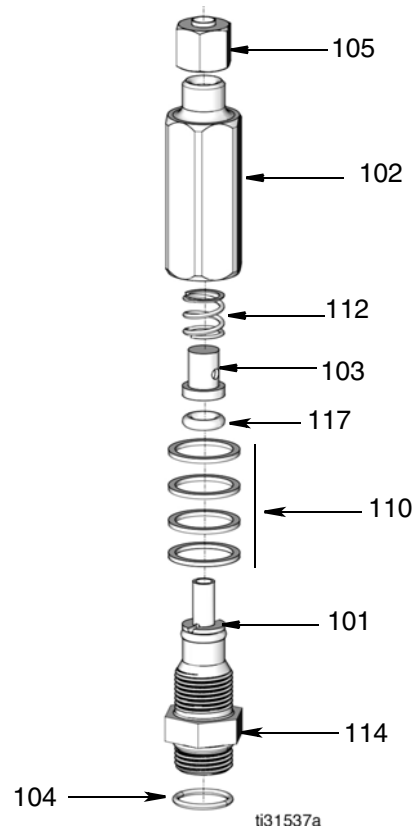

FIG. 36
Grease injectors are used to provide precise lubrication to each grease point in the system. If an injector is not producing the correct amount of lubricant for a specific location on the vehicle or if a replacement injector of correct size is not available, output spacer washers (110) can be installed to adjust the injector's output volume (FIG. 36, page 44).
3. Use a 5/8 inch wrench to loosen and separate the injector body (102) from the valve assembly (114). Be careful not to misplace or damage the spring (112), retainer cap (103) and o-ring (117) (FIG. 36, page 44).
- Add spacers (110) to increase output volume.
- Remove spacers (110) to decrease output volume.
5. Reassemble injector valve assembly. Be sure all parts removed during disassembly are reinstalled in the correct order as shown in FIG. 36 (page 44). Use a 5/8" wrench to tighten using only enough force to seat output spacers firmly (110). Torque to 8 ft-lb +/- 2 (10.8 +/- 2.7 N•m).
6. Install injector (101) onto manifold (119/120). Slide a deep well socket over the injector and aligned with the hex nut flats (114) (FIG. 36, page 44). Torque to 8 ft-lb +/- 2 (10.8 +/- 2.7 N•m).